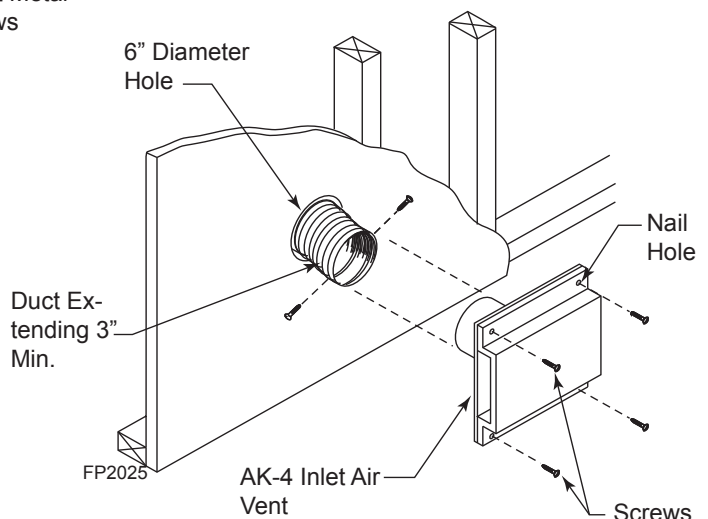

Figure 13 -
3. Cut a 6" diameter opening for model OAC-4 in the outside wall covering where the outside vent is to be located. *Figure 13*
5. If using insulating duct, push the insulation back from one end of the duct approximately 2". *Figure 13*